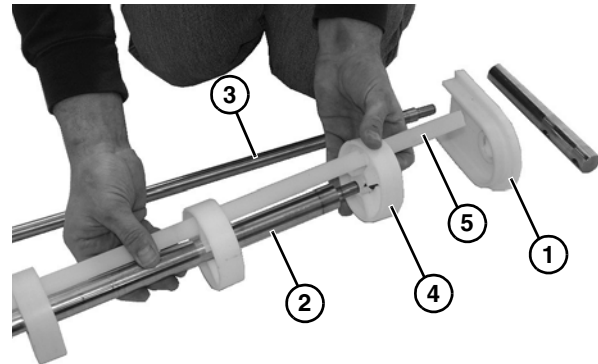

Figure 63
- Remove pinch guard (**Figure 63, item 1**) from idler shaft (**Figure 63, item 2**) and pinch guard shaft (**Figure 63, item 3**).
- Slide the pucks (**Figure 63, item 4**) and alignment bar (**Figure 63, item 5**) off the idler shaft (**Figure 63, item 2**).